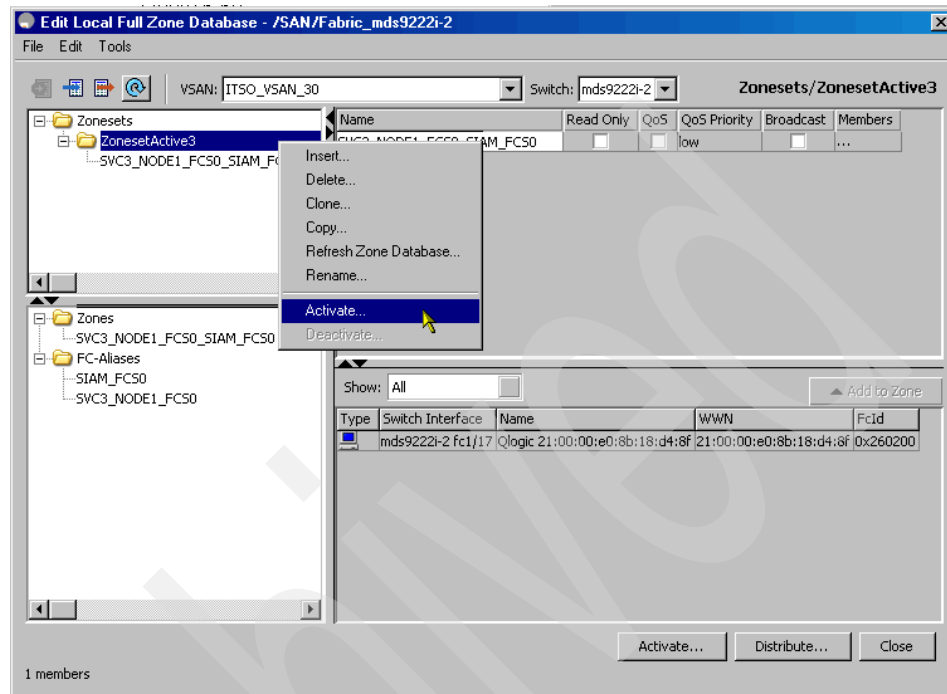

Figure 6-69 Activate the zoneset
5. In order to activate a zoneset right-click the zoneset **ZonesetActive3**, as shown in Figure 6-69.